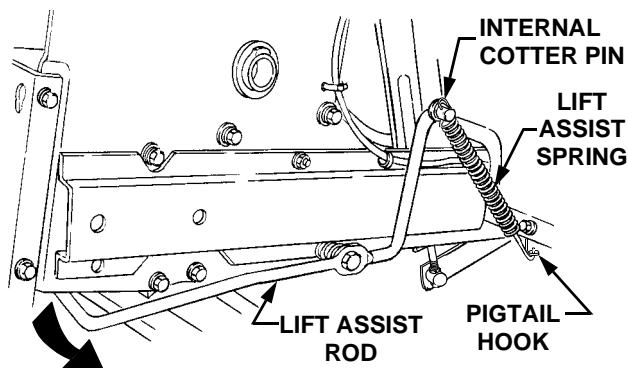

Figure 28
1. **If RH Lift Assist Spring Is Factory Installed.** From beneath the right rear fender, push the lift assist rod down and outward to release from the frame. Disengage the hook of the lift assist spring from the pigtail hook (See Figure 28).
- From underneath the fender on the right/rear side of the tractor frame, remove the internal cotter pin from the forward end of the rod. Refer to Figure 28.
- Slide the larger hook of the lift assist spring onto the forward end of the rod, and reinstall the internal cotter pin to capture the spring hook between the flange of the rod and the pin. Refer to Figure 28.